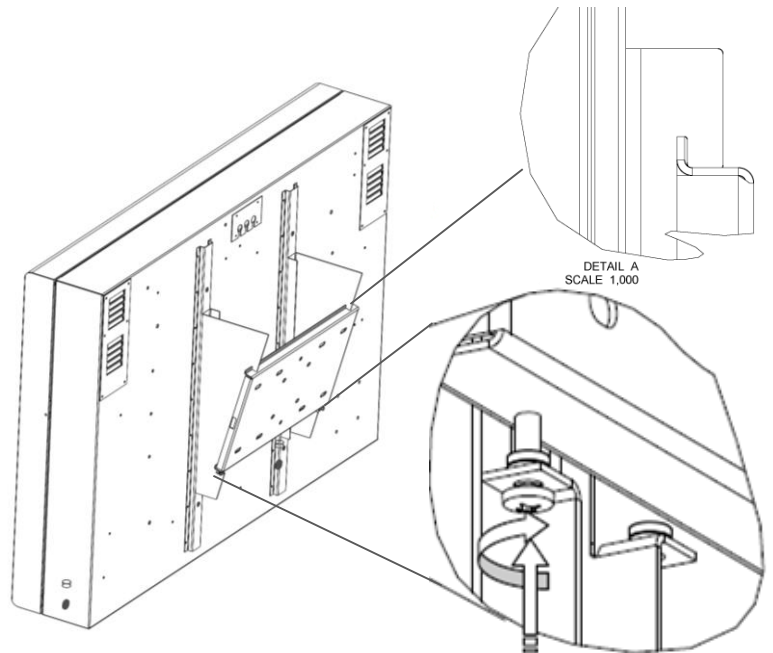

Figure17
STEP 25: Finally use both M6 x 25 screws on the outward facing sides of both enclosures brackets then tighten with a Phillips screw driver until the bracket and wall plate are clamped together tightly (Figure17).